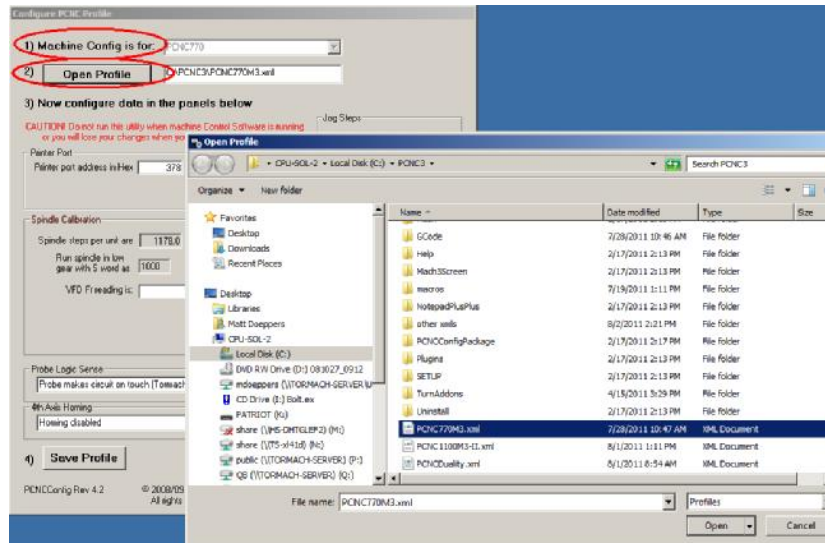

Figure 9.10 – Opening the profile
5. Open the PCNCConfig software program located under “Programs” on your “Start” menu. This will have been installed when you installed the control software. Click the pull down menu for line#1 and select “PCNC770”. Click the “Open Profile” button and choose the machine profile you wish to modify (figure 9.10). The profile for the PCNC 770 is: